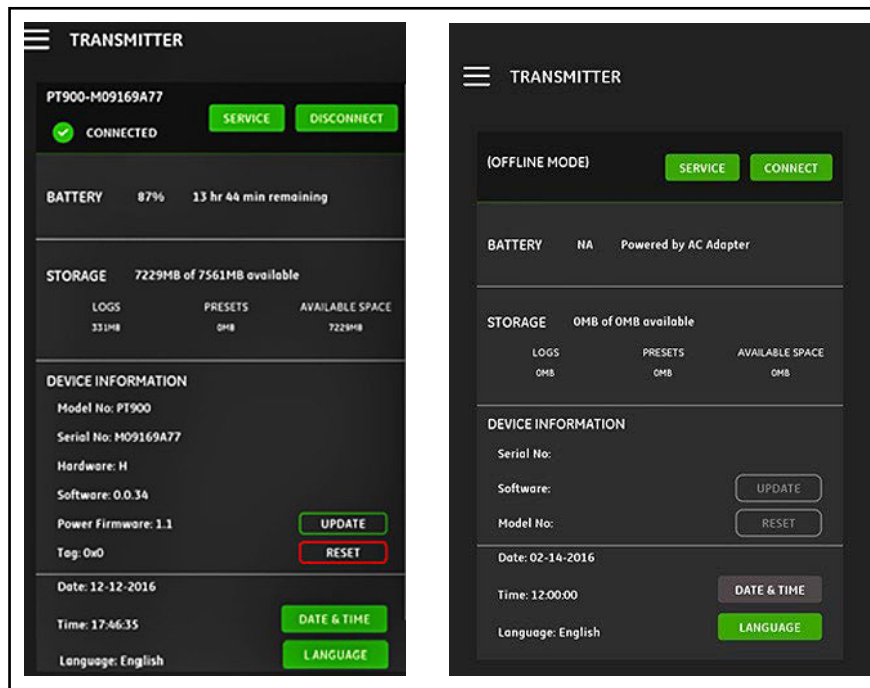

Figure 117: CONNECTED (Left) and OFFLINE (Right) Menus
IMPORTANT: Before creating a new log, be sure to synchronize the transmitter and the tablet time settings by clicking the DATE & TIME button in the TRANSMITTER menu (see *Figure 117 on page 90*).
1. Be sure the transmitter and tablet time settings are synchronized by setting the transmitter time in the TRANSMITTER > DATE & TIME menu (see *Figure 117 on page 90*).
If a PT900 transmitter is CONNECTED to the tablet APP via Bluetooth, the TRANSMITTER menu shows device information about the PT900 transmitter, the battery and the memory usage. However, if the connection is OFFLINE, this information is unavailable. See examples of both possibilities in *Figure 117* below.
7. Go to the TRANSMITTER menu (see *Figure 117* on page 90) and verify that the device information is correct.